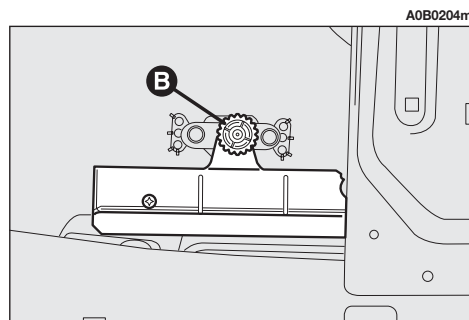

fig. 49
- Slacken the knob (B-fig. 49) and withdraw the complete unit.
– Refit the transparent cover and install the unit locking it with the knob (B-fig. 49).